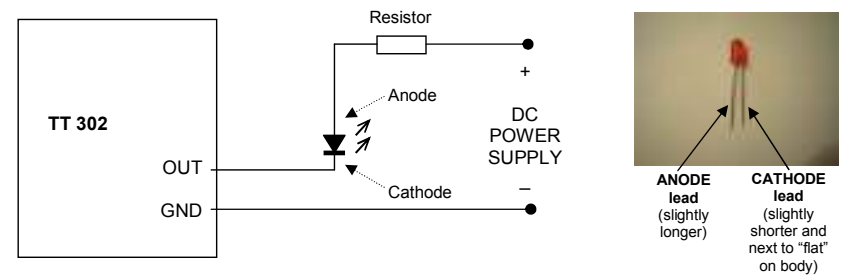

Fig.5: Connection of light emitting diode “occupancy” indicator
- The LED must be connected correctly as it is **polarity-sensitive**. The photograph in fig.5 below shows how to identify the ANODE and CATHODE leads of a typical LED.
- The LED must have its **anode** connected to the **positive** side of a DC power supply via a current-limiting resistor. The LED **cathode** must be connected to the “OUT” terminal on the TT 302 **output connector**. Fig.5 should make this clear.